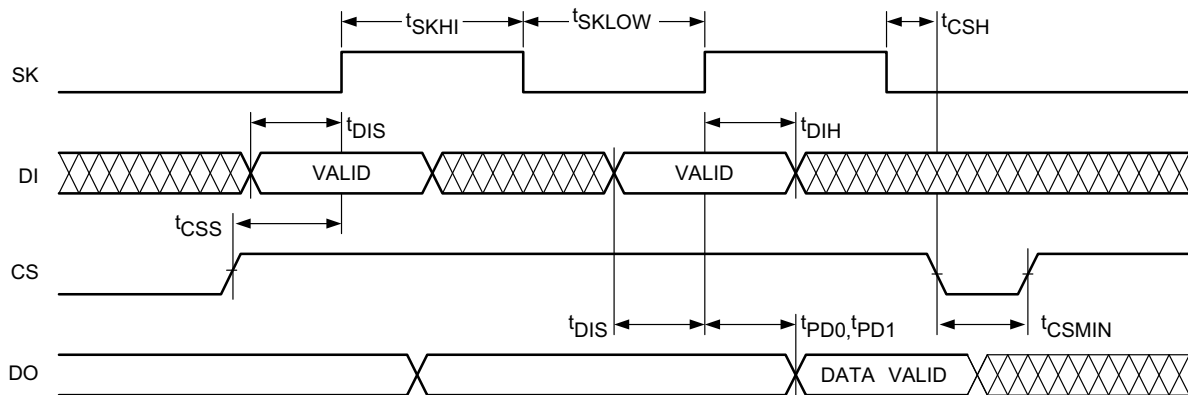

Figure 3. Synchronous Data Timing
Instructions, addresses, and write data are clocked into the DI pin on the rising edge of the clock (SK). The DO pin is normally in a high impedance state except when reading data from the device, or when checking the ready/busy status during a write operation. The serial communication protocol follows the timing shown in Figure 3.